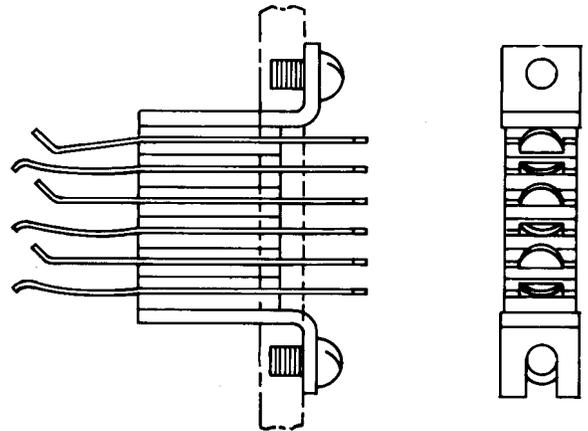

Fig. 17—395B Jack
2.17 395B: This multicontact jack (Fig. 17) is arranged for a 240B plug. The jack is used with the SD-31428-01 outgoing repeater circuit in Step-By-Step Telephone Systems. This jack consists of two metal brackets between which are mounted three pairs of contact springs insulated from each other. The terminals are arranged for mechanically wrapped connections.